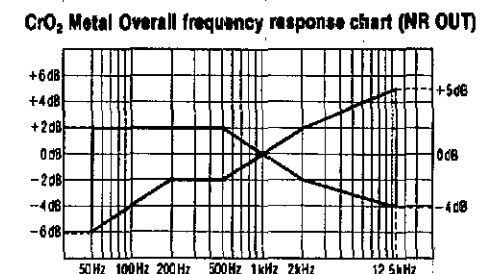

Fig. 14
6. Repeat steps 4 and 5 above for CrO₂ blank test tape (QZCZCX) and Metal blank test tape (QZCZCZ), in these cases raising the upper end of the test signal frequency range to 12.5kHz. Verify that the signal levels at the test frequencies fall in the ranges specified in Fig. 14 with respect to the reference signal level.